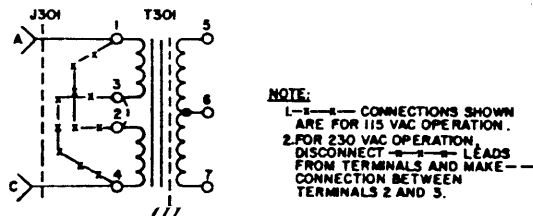

Figure 2-1. Primary power transformer wiring
- 2.2.5.9 Loosen the threaded screws securing the bottom cover and remove. Inspect the power transformer (T301) terminals to verify parallel connection of the primary winding for 115VAC operation or cross connection of the primary winding for 230VAC operation. Refer to Figure 2-1 for the proper connections. Recheck the line fuse for proper rating.
2.3.1 The exciter is designed for operation at 115 or 230VAC, 50/60Hz single-phase primary power. Unless otherwise specified by the customer, the unit is shipped wired for 115VAC operation. For 230VAC operation, a wiring change is required on the primary of the transformer (Figure 2-1). Line fuse must be changed to 0.5 ampere rating for 230VAC operation.